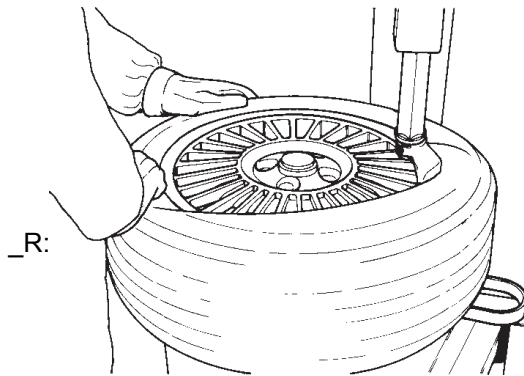

Fig. 4.1-6
G. Rotate the turntable clockwise (pedal down) and, at the same time, push down on the tire sidewall to move the bead into the drop center of the rim (Fig. 4.1-6).